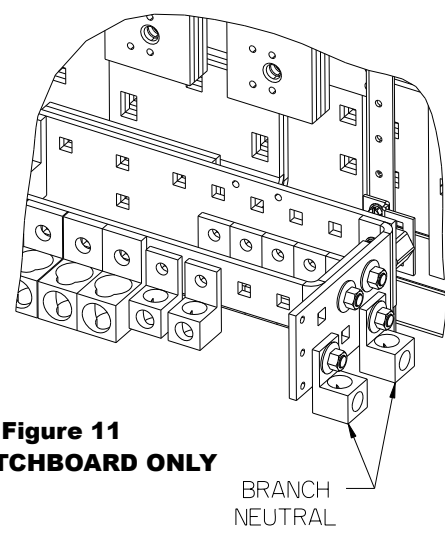

Figure 11
12. Reference fig. 11 - Installing the Branch neutral lug (item 18) in a Switchboard. The branch Neutral is located at the bottom of the "Z-rails", or mirrored at the top depending upon the feed cable location. Two (2) different Neutral lug assemblies are included in the kit, be sure to install the type pictured below. The Neutral lug assemblies can be mounted, as shown, on any available hole of the Branch neutral depending on the cable feed location. Torque all hardware as specified on the rear of the deadfront.